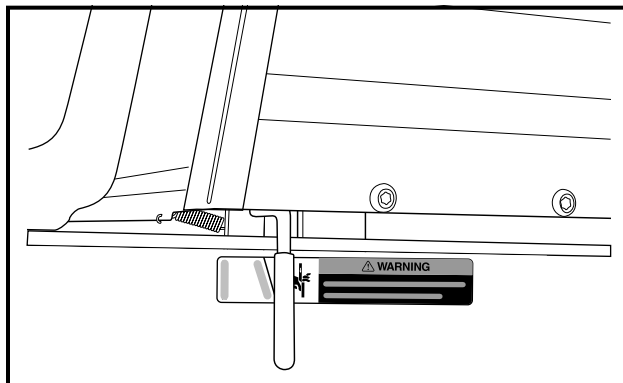
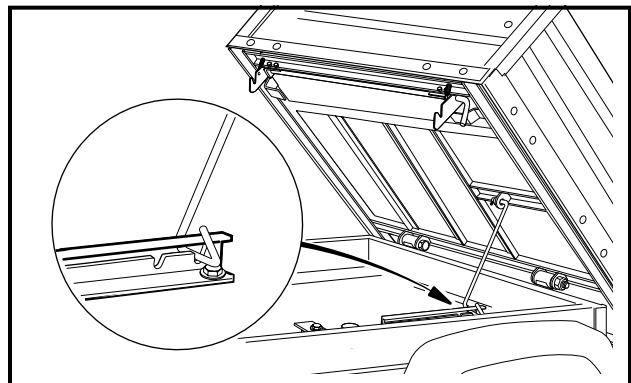

Figure 10 Bed Latch
Figure 11 Prop Rod
The bed latch (Figure 10) has an automatically engaging prop rod and prop rod track (Figure 11) as standard features. To lift the bed, pull the bed latch handle toward the rear of the vehicle and lift the bed. The prop rod will come to rest in one of the notches in the prop rod track. To close the bed, lift the bed so that the prop rod is no longer supported in one of the track notches. Push the prop rod toward the front of the vehicle to free it from the track notch and gently lower the bed. **DO NOT** drop the bed. See following **DANGER, WARNING, and NOTE**.
**NOTE:** The Carryall 294 vehicle is equipped with an automatically engaging prop rod (**Figure 11**), unless equipped with the electric bed lift accessory.